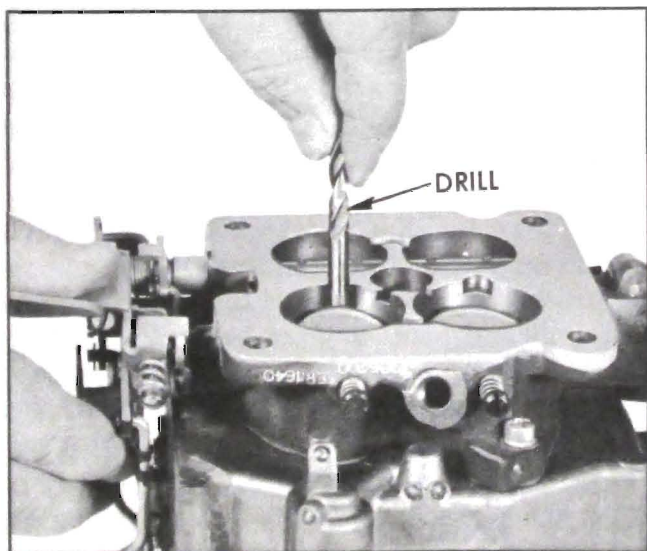

Figure 10-28—Checking Switch Timing on Bench
3. While holding carburetor in normal upright position, insert a $\frac{1}{4}$ " drill between wall of throttle body and lower edge of one primary throttle valve, at the center. With valve closed against the drill, the switch should make contact and light the test lamp. See figure 10-28.